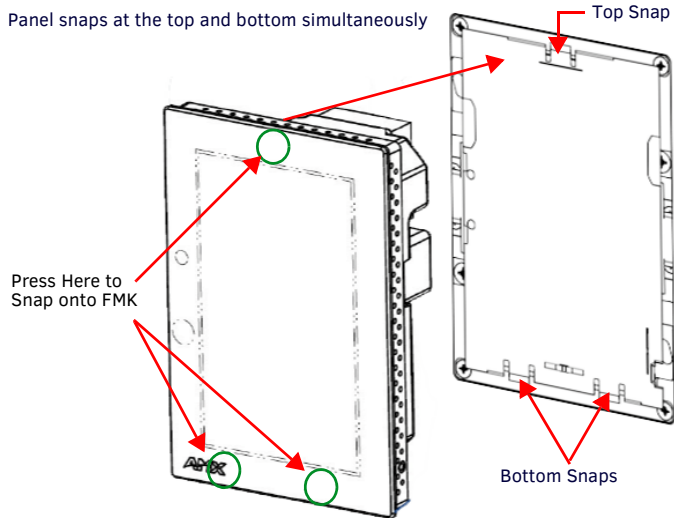

FIG. 4 INSERTING THE MXA-FMK-43 INTO THE WALL SURFACE
- Snap the panel onto the FMK snaps (FIG 4) by pressing gently but firmly and evenly on the defined surface areas of the glass until the panel snaps “click” to lock it down..